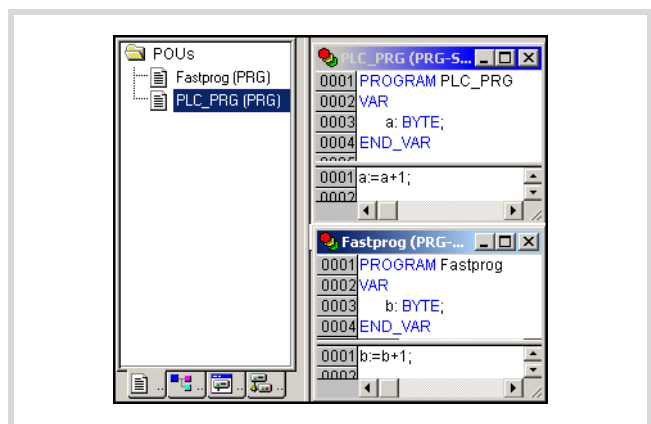

Figure 55: Writing a program
► Create the POU's "PLC_PRG" and "Fastprog" as shown in figure 55.